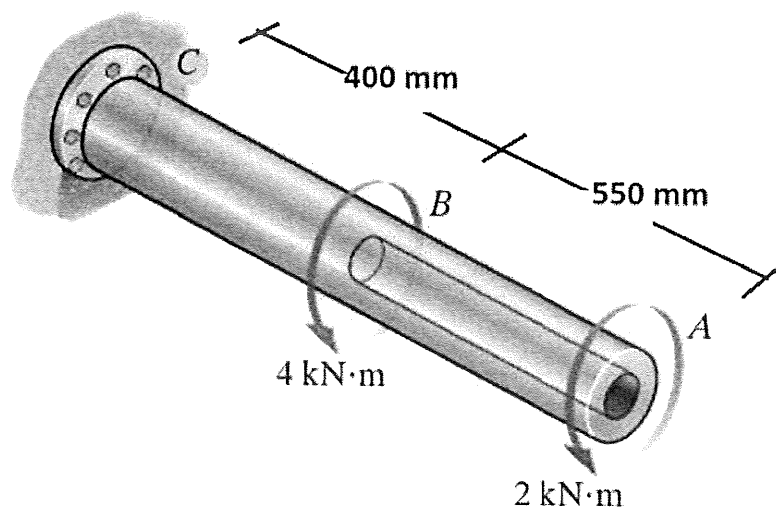

Figure 2
- b) The shaft is hollow from A to B, solid from B to C and is attached to a fix wall at C. The shaft has an outer diameter of 80 mm and the thickness of the wall of the hollow segment is 10 mm. It is subjected to the torques as shown in Figure 2. Knowing that the shaft is made of Aluminium ($G=27$ GPa),